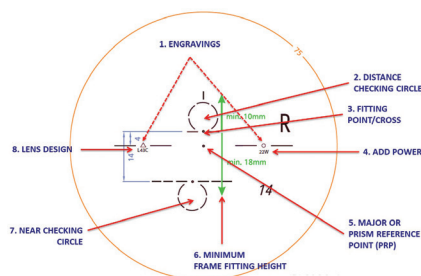

FIG. 25
**Step 1:** Confirm the lens type, material, design, powers, centration and fitting reference points on the lens (Fig. 25). All PAL designs all have engraved markings by the manufacturer that help us identify the brand/design name, add power and the location of the axis alignment engravings.